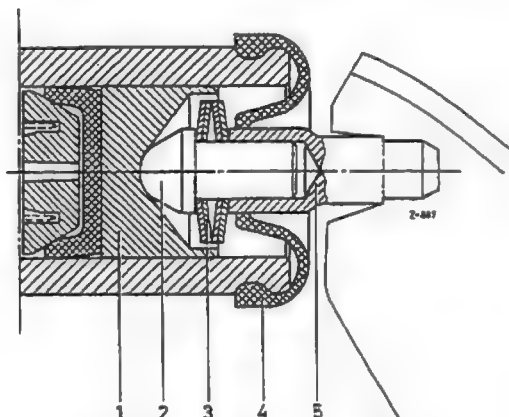

Fig. 42-6/3
2. Remove the actuating pins (1) and the two rubber boots (2) (Fig. 42-6/4).